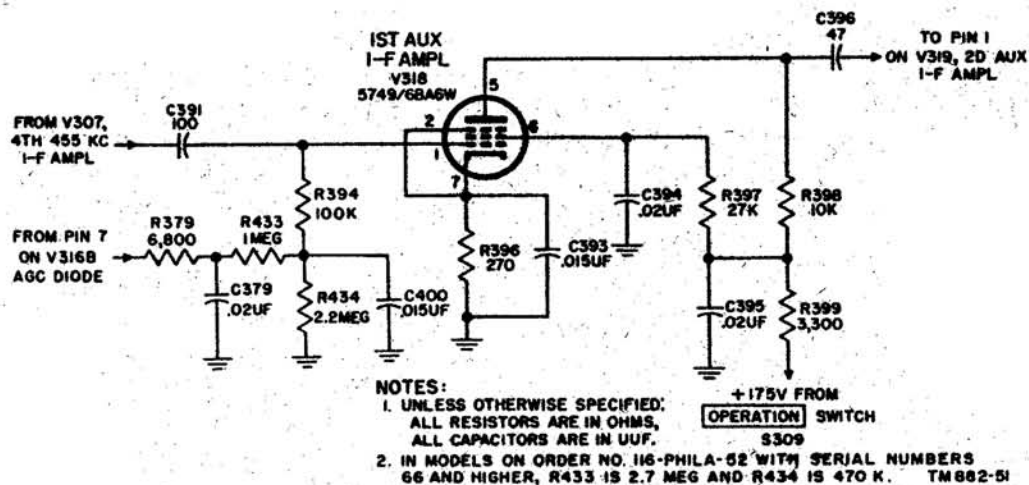

Figure 48. First auxiliary if. amplifier.
(figs. 48, 49, and 50)
a. *First Auxiliary If. Amplifier* (fig. 48). First auxiliary if. amplifier V318 amplifies the signal from the fourth 455-kc if. amplifier. The signal is coupled to the control grid of V318 through common coupling capacitor C338 and auxiliary circuit coupling capacitor C391. The primary function of C391 is to isolate the control grid of V318 from the control grid of am. if. amplifier V314. This permits using the auxiliary circuit with either the fm or the am. circuit at the same time. B+ to V318 is applied through R399 which, with C395, forms a decoupling network. Agc voltage from V316 is developed across the resistor network consisting of R379, R433, and R434, with C379 and C400 functioning as agc decoupling capacitors. Part of this agc voltage is fed through R394 to the control grid of V318. Resistor R397 is a voltage dropping resistor for the screen grid. Resistor R398 is the plate load and R396 is the cathode bias resistor. Rf bypass capacitors are C393 for the cathode and C394 for the screen grid. The output is applied through